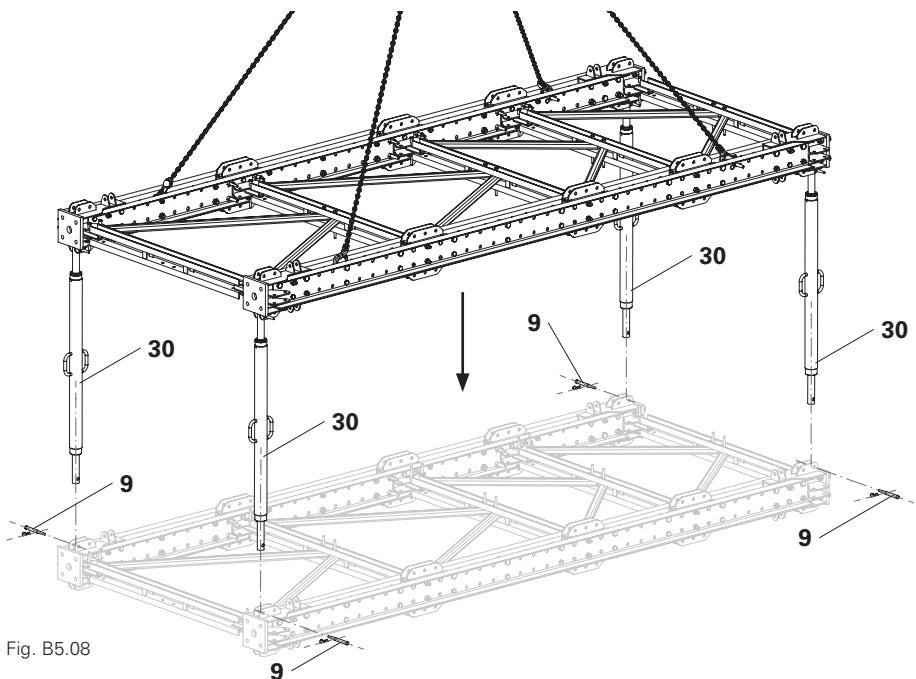

Fig. B5.08
2. Lower the module with the crane until the bottom fitting pins Ø 21 mm (**9**) can be mounted.(Fig. B5.08)